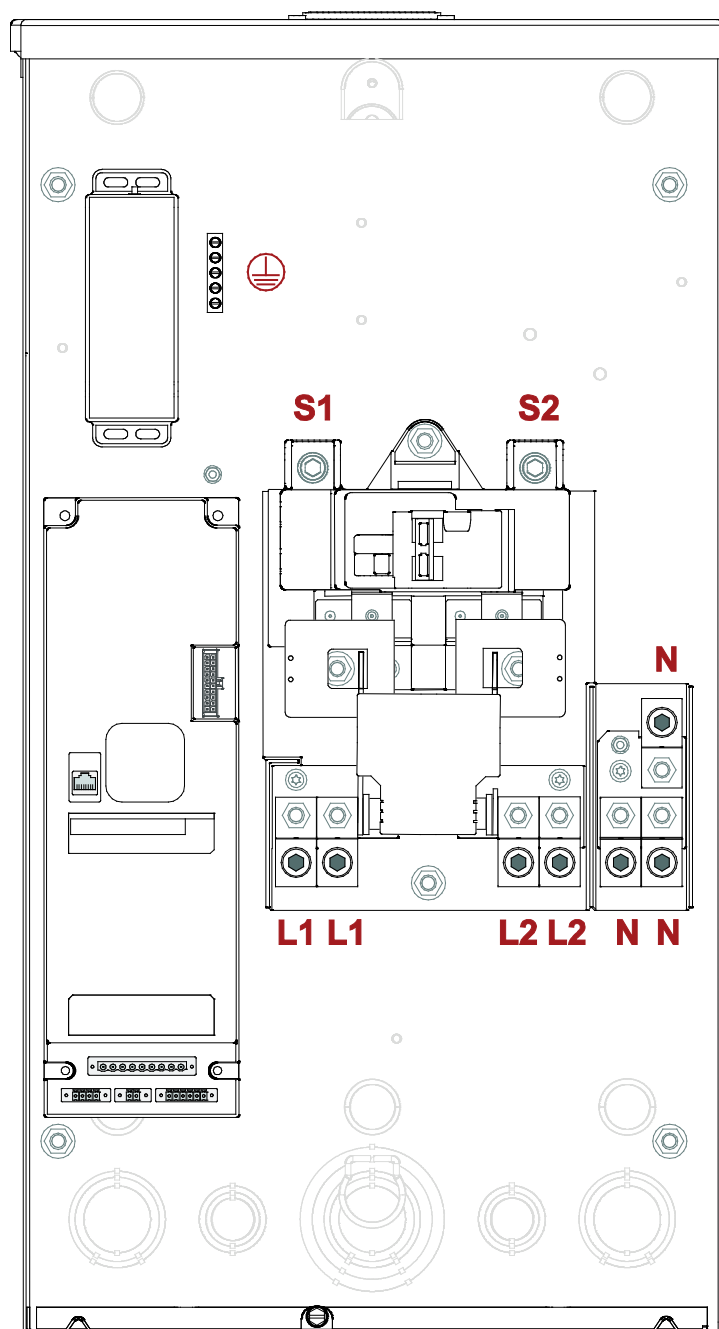

Figure 38: Backup Gateway Power Connector Labels (shown with breaker installed)
2. Connect the electrical service from the service inlet or from the main panel (depending on the backup configuration) to the Backup Gateway terminals according to the following table and diagram (Fig 38). Strip the ends of the wires and insert them in the corresponding Backup Gateway terminal lugs. Tighten the lugs to 30 Nm (22 lb-ft).